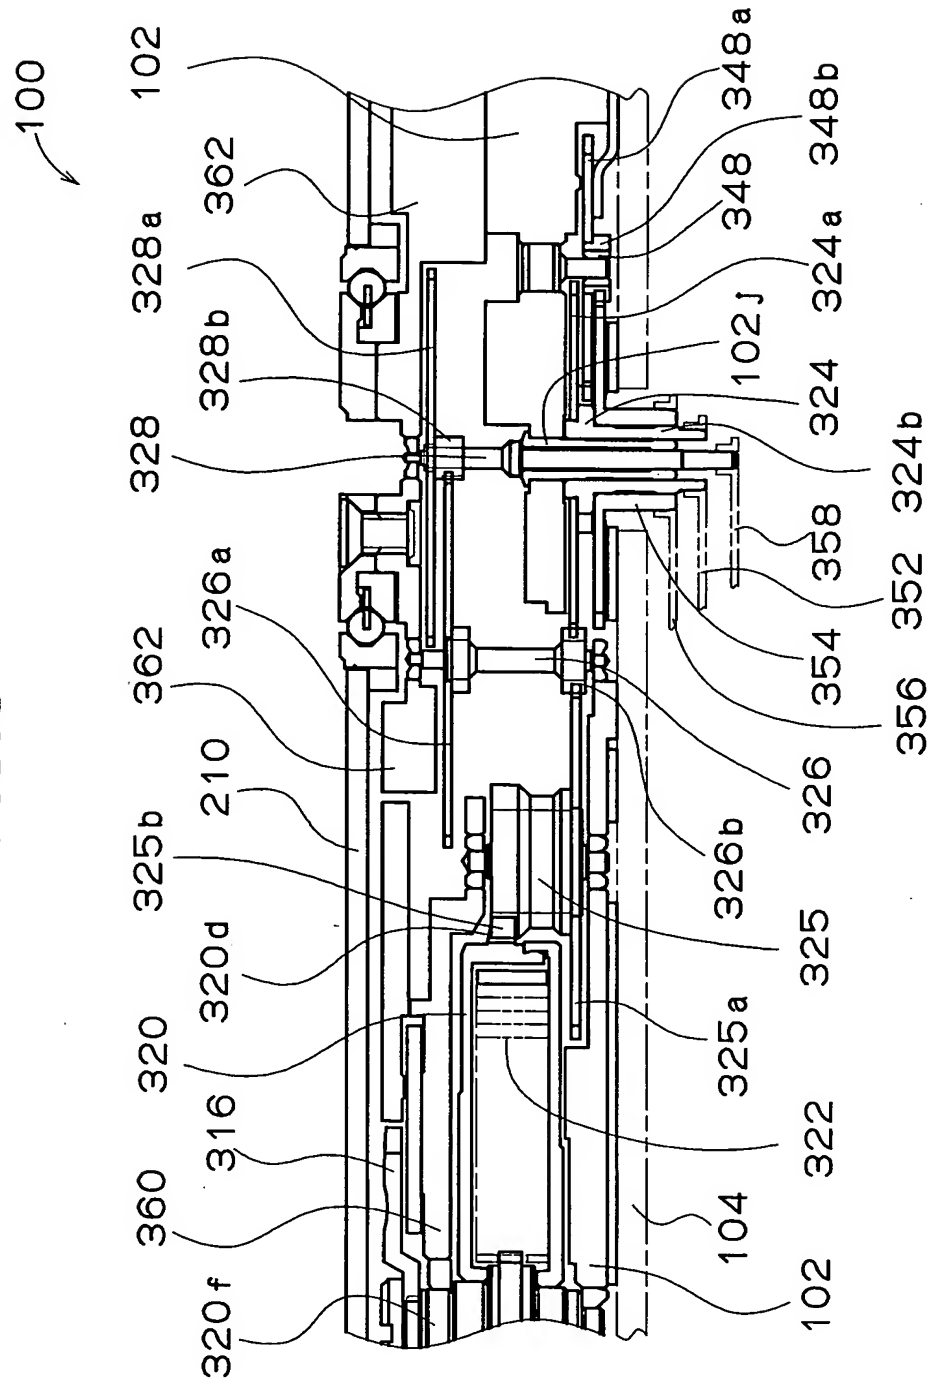

FIG. 9
FIG. 9 is a schematic diagram illustrating a mechanical assembly, likely a pump or motor component. The diagram shows a central shaft (906) passing through a housing (902). A pinion (902) is mounted on the shaft and meshes with a gear (930). The gear (930) has teeth (931, 931b) and a hub (932). A component (940) with teeth (942a, 942b) is positioned below the gear. Other labeled parts include 920, 920f, 920g, 933, 941, and 944.